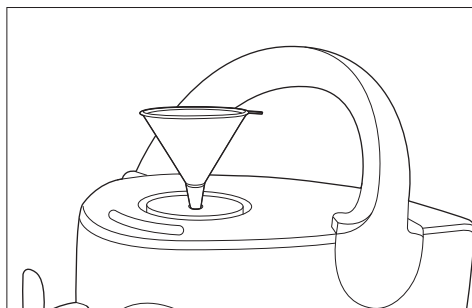

Fig. 2
2. Position the filling funnel (17) on the water tank inlet (Fig. 2).